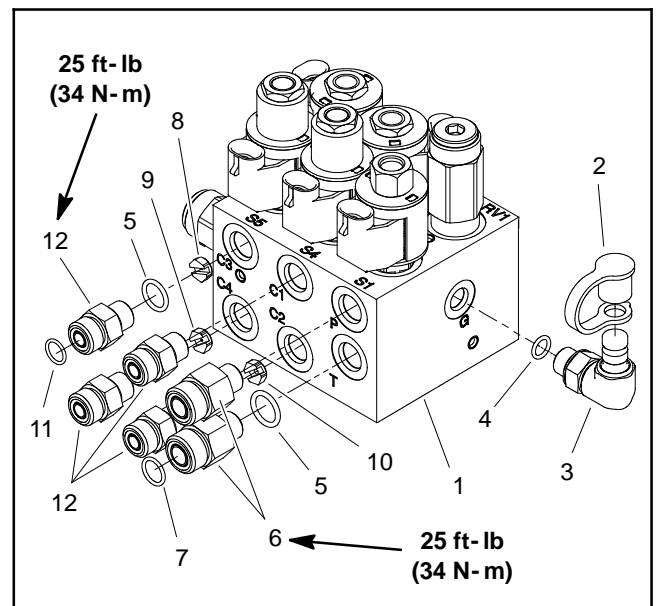

Figure 89
IMPORTANT: A flow control orifice is placed beneath hydraulic fittings in lift control manifold ports C2, C3 and C4 (Fig. 89). If a fitting is removed from the lift junction manifold and an orifice is in the manifold port, make sure to remove orifice and label its position for assembly purposes. Also note location of groove in orifice for assembly purposes.
8. If hydraulic fittings are to be removed from lift control manifold, mark fitting orientation to allow correct assembly (Fig. 89). Remove fittings from manifold and discard O-rings.
1. If fittings were removed from junction manifold, lubricate and place new O-rings onto fittings. Install fittings into manifold openings making sure that orifice is correctly placed before threading fitting into manifold. Tighten fittings (see Hydraulic Fitting Installation in the General Information section of this chapter). Refer to Figure 89 for fitting installation torque.